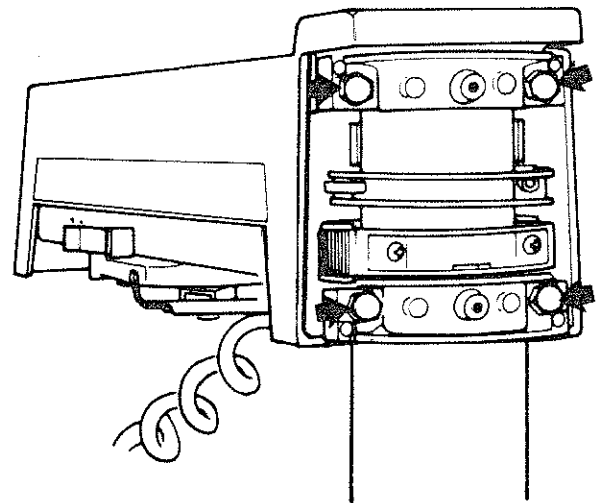

Fig. 180 - Location of Hex Head Tapping Screws
2. With a 9/16 inch wrench or socket tighten evenly the top two 3/8-16 hex head tapping screws. The bottom two screws should also be tightened evenly but not as tight as the top screws. (Figure 180)